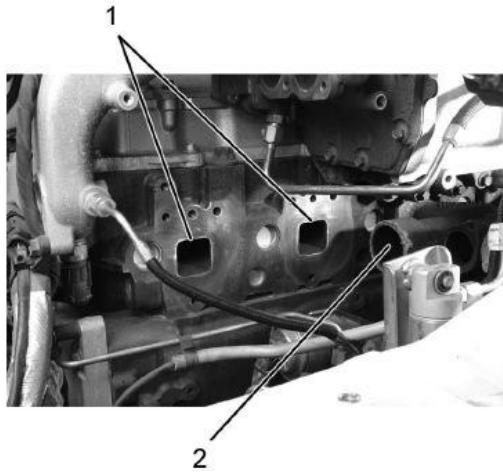

Figure 7: Cylinder Head
15. Clean #5 and #6 exhaust manifold gasket sealing surfaces (**Figure 7**, Item 1) on cylinder head.
16. Clean inside middle exhaust manifold bore (**Figure 7**, Item 2).